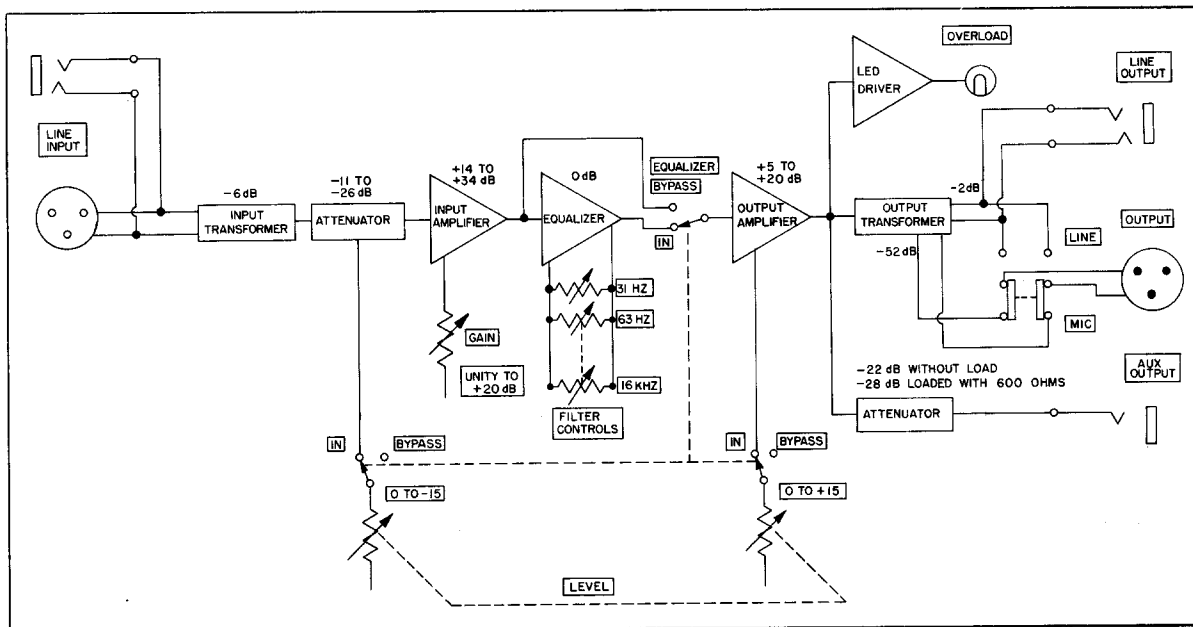

FIGURE 4. SR107 BLOCK DIAGRAM
Input connections to the SR107 Audio Equalizer are made through either a three-conductor (stereo type) phone jack (14) or a three-pin female audio connector (13) (see Figure 4). The connectors are wired in parallel to provide a balanced line level input with either connector. Inserting a two-conductor phone plug into the phone jack will automatically unbalance the input. The input signal is passed through a 6 dB stepdown input transformer to an attenuator. The attenuator provides an additional 11 to 26 dB of loss depending upon the setting of the LEVEL Control (3) described later.